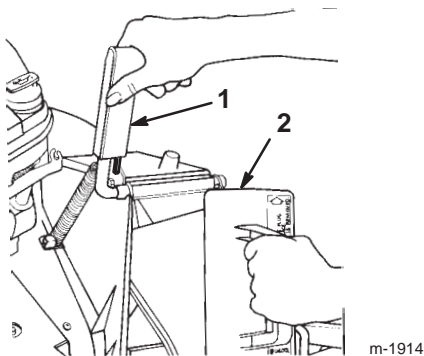

Figure 5
1. Open the discharge door by pulling forward on the handle and moving it rearward (Fig. 5). Hold the discharge door handle to prevent the spring-loaded door from closing while you insert the plug.
2. Since the plug is slightly wider than the discharge tunnel opening, rotate the plug clockwise slightly while inserting it (Fig. 5).